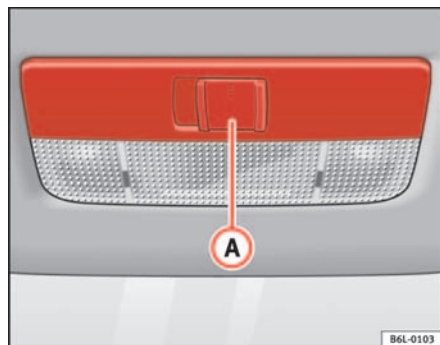

Fig. 60 Detail of the roof:
The switch ⇒ fig. 60 (A) is used to select the following positions:
Move the knob to the position **O** ⇒ fig. 60.